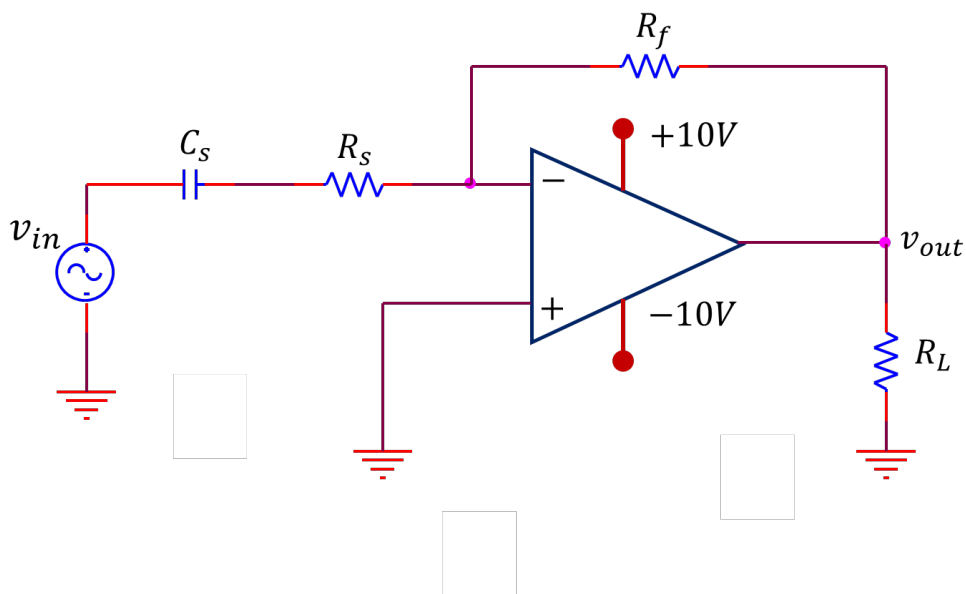

Figure 1: First order active high pass filter
1. Use the LM741 Operational Amplifier chip in an active high pass filter configuration. (see Figure 1).